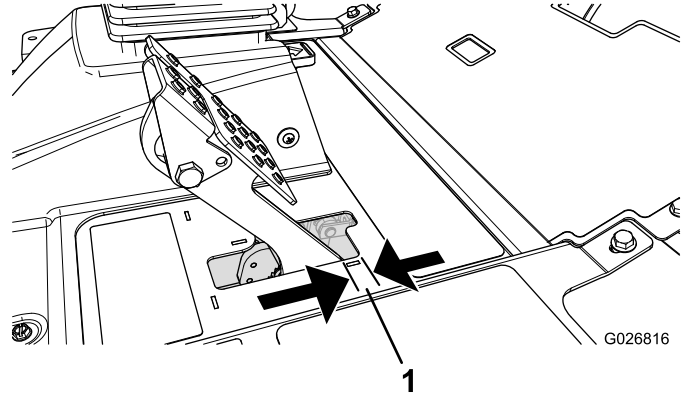

**Figure 53**
Adjust the brakes when there is more than 2.5 cm (1 inch) of free travel (Figure 53) of the brake pedal, or when more holding force is required. Free travel is the distance the brake pedal moves before you feel braking resistance.
2. Tighten the rear nut to move the cable backward until brake pedals have 6.3 to 12.7 mm (1/4 to 1/2 inch) of free travel (Figure 53), before wheel lock up is achieved.